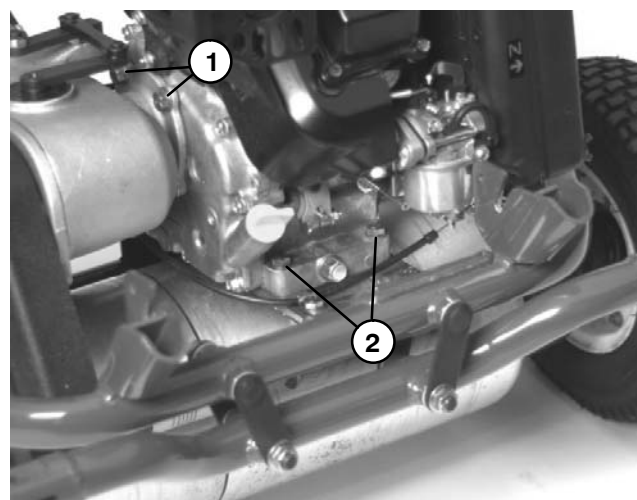

Figure 16
6. Remove engine from the engine base (Fig. 16):